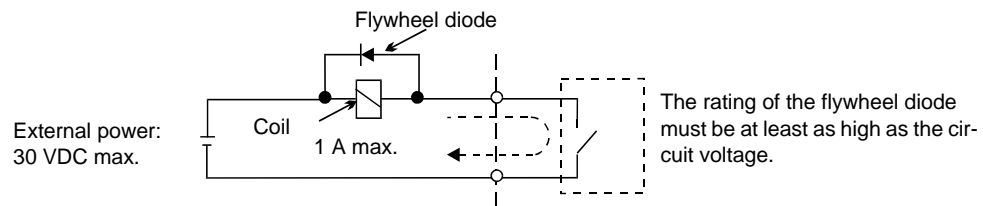

Fig 2.10 Flywheel Diode Connection
*2. When driving a reactive load, such as a relay coil with DC power supply, always insert a flywheel diode as shown in Fig 2.10